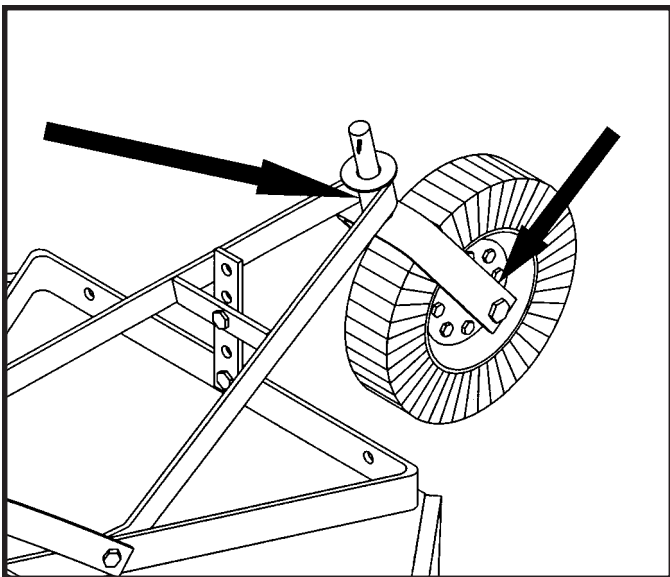

Figure M-1
- 2). Every 8 hours, wheel fork(s), wheel hub(s), PTO shaft universal joints (2), and PTO telescoping surface. **(See Figures M-1 & M-2)**